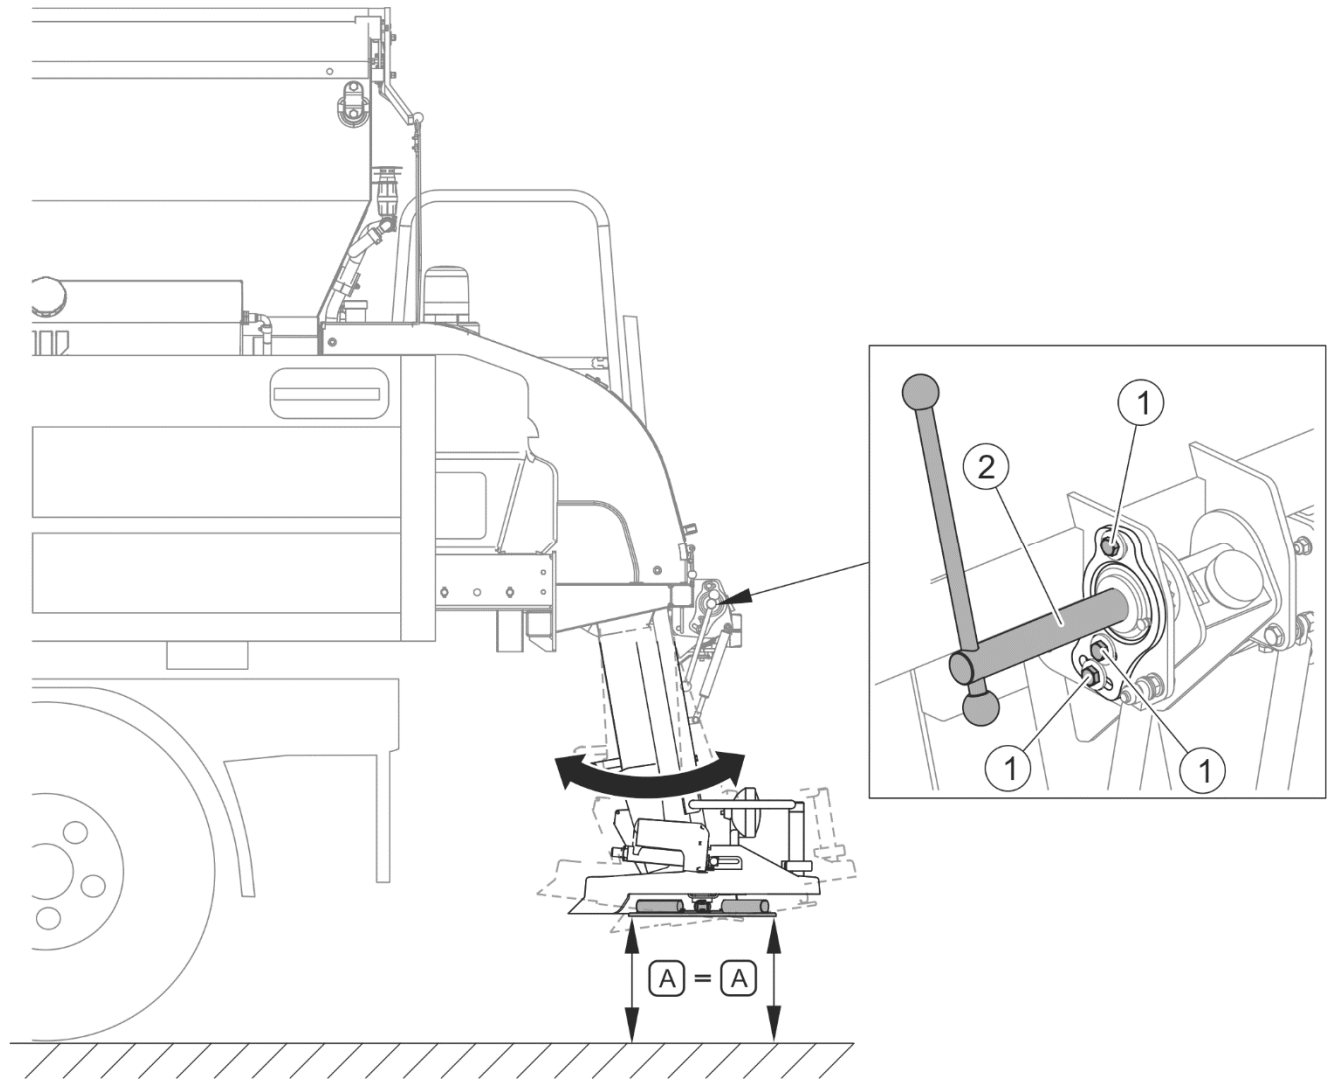

FIGURE 4.14 Levelling the spreading disc
(1) - M10x35 bolt; (2) - clamp bolt
During operation, the spreading disc should be levelled. To check that the spreading disc is level, measure the distances between the disc and the ground in two extreme points (A) to confirm that the distances are the same (FIGURE 4.14). Otherwise, make adjustment as follows:
- check that clamp bolt (2) is tightened,
- loosen three bolts (1),
- shift the spreading mechanism forwards or backwards in order to set the spreading disc in such a manner that distances (A) are the same,
- tighten bolts (1).